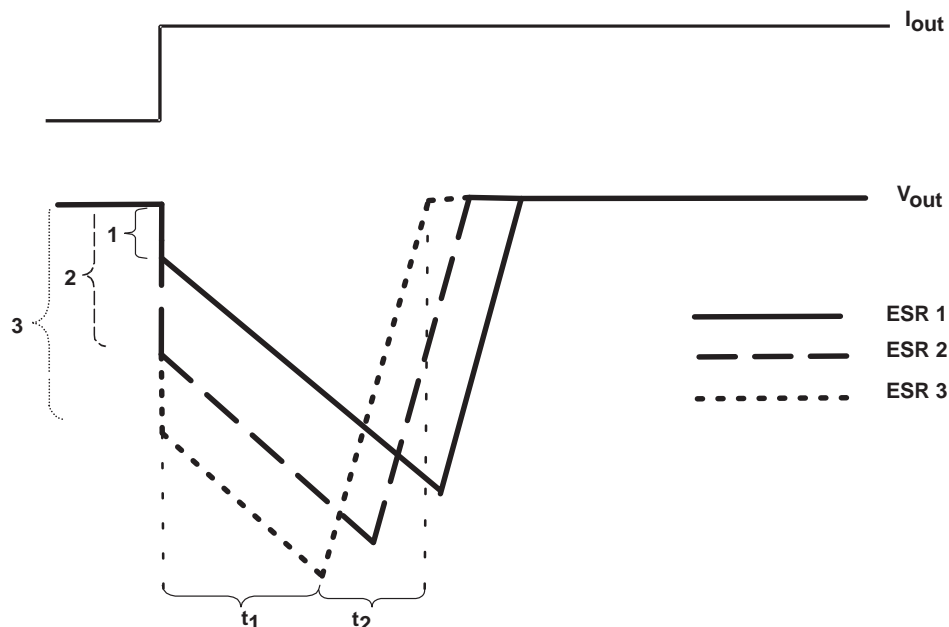

Figure 23. – Correlation of Different ESRs and Their Influence to the Regulation of  $V_{out}$  at a Load Step From Low-to-High Output Current
- The LDO is not able to supply the sudden current need due to its response time ( $t_1$  in Figure 23). Therefore, capacitor  $C_{out}$  provides the current for the new load condition (dashed arrow).  $C_{out}$  now acts like a battery with an internal resistance, ESR. Depending on the current demand at the output, a voltage drop will occur at  $R_{ESR}$ . This voltage is shown as  $V_{ESR}$  in Figure 22.
- When  $C_{out}$  is conducting current to the load, initial voltage at the load will be  $V_{out} = V_{C_{out}} - V_{ESR}$ . Due to the discharge of  $C_{out}$ , the output voltage  $V_{out}$  will drop continuously until the response time  $t_1$  of the LDO is reached and the LDO will resume supplying the load. From this point, the output voltage starts rising again until it reaches the regulated voltage. This period is shown as  $t_2$  in Figure 23.